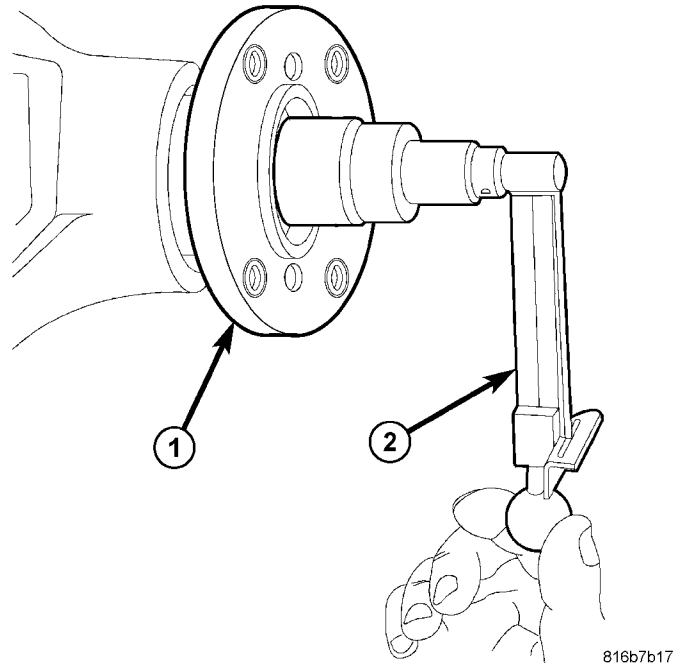

Fig. 2 TORQUE TO ROTATE
6. Using an inch pound torque wrench, rotate the pinion gear three or four times (Fig. 2).
- 8. Continue tightening the pinion flange nut in 6.8 Nm (5 ft. lbs.) increments and obtaining a "Total Torque To Rotate" measurement using the correct procedure to obtain the measurement (Fig. 2).